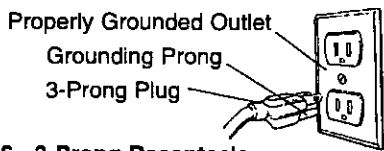

Figure 6 - 3-Prong Receptacle
- This tool is equipped with an approved cord rated at 150V and a 3-prong grounding type plug (see Figure 6) for your protection against shock hazards.
- Grounding plug should be plugged directly into a properly installed and grounded 3-prong grounding-type receptacle, as shown (see Figure 6).